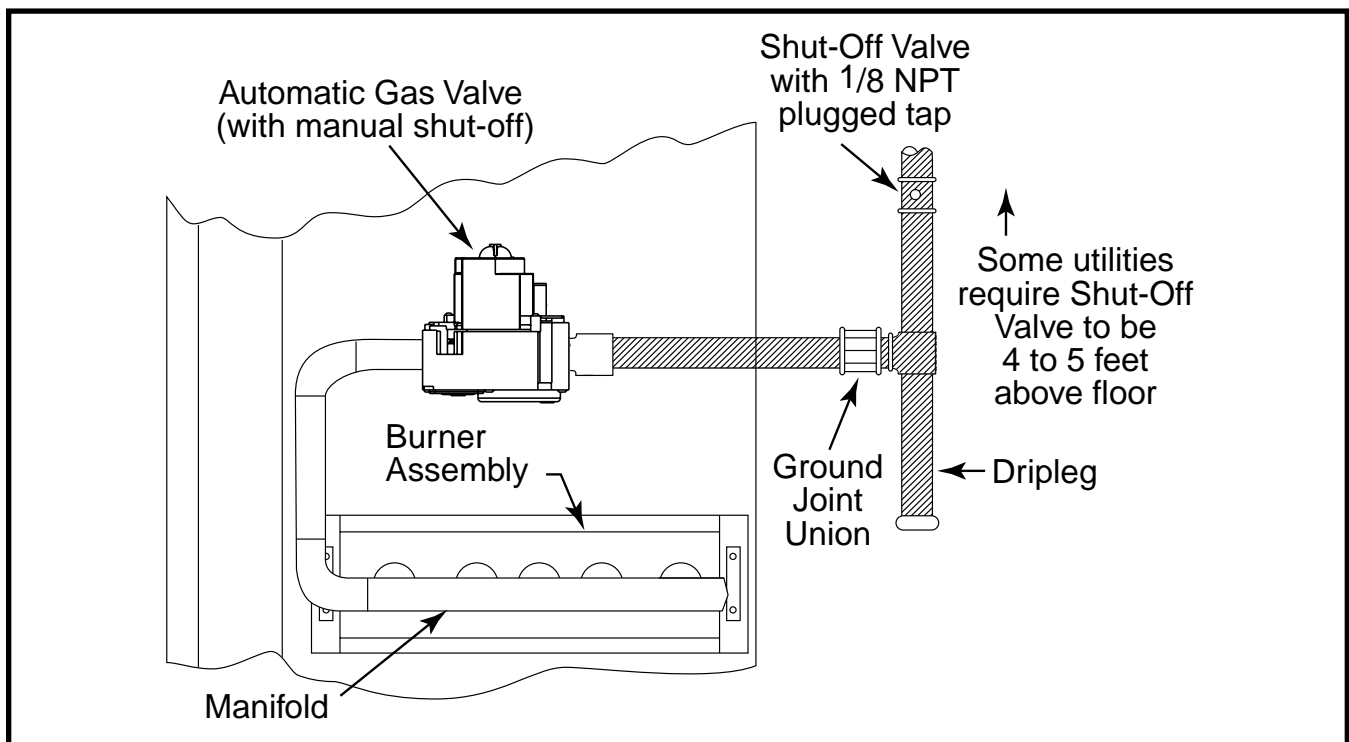

Figure 7. Typical Gas Hookup - Right Side Entry
- Some local codes require the installation of a manual main shut-off valve and ground joint union external to the furnace. The shut-off valve should be readily accessible for service and/or emergency use. Consult the local utility or gas supplier for additional requirements regarding placement of the manual main gas shut-off. See Figure 7 (page 16)
- A drip leg should be installed in the vertical pipe run to the unit (Figure 7).
This unit only has right side gas entry. When connecting the gas, provide clearance between the gas supply line and the entry hole in the unit's casing to avoid unwanted noise and/or damage to the unit. A typical gas service hookup is shown in Figure 7.